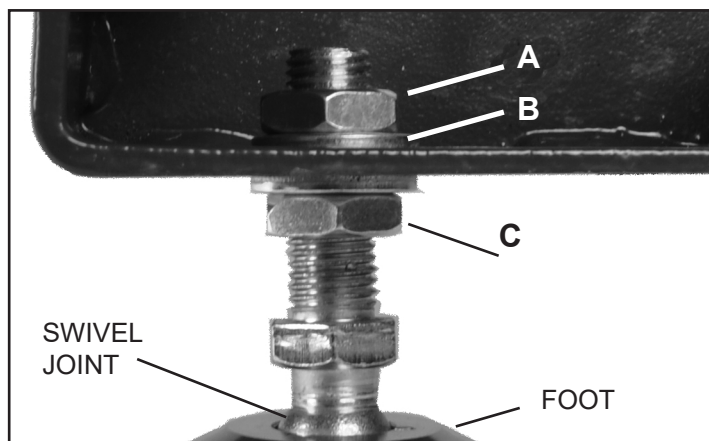

FIG. 3
2. The Adjustable Feet have two hex nuts and washers assembled on their threaded shafts. Remove the top nut and washer (Fig. 3, A) and leave the bottom nut and washer on the shaft. The bottom nut will be used to adjust the level of the lathe later on. Figure 3.
NOTE: Once the lathe is assembled and in its final location, adjust the bottom nut(s) (Fig. 3, C) that are right under the bottom of the foot to set your desired spindle height and to level the lathe. Once set, then tighten the top nuts to secure the adjustable feet in position.